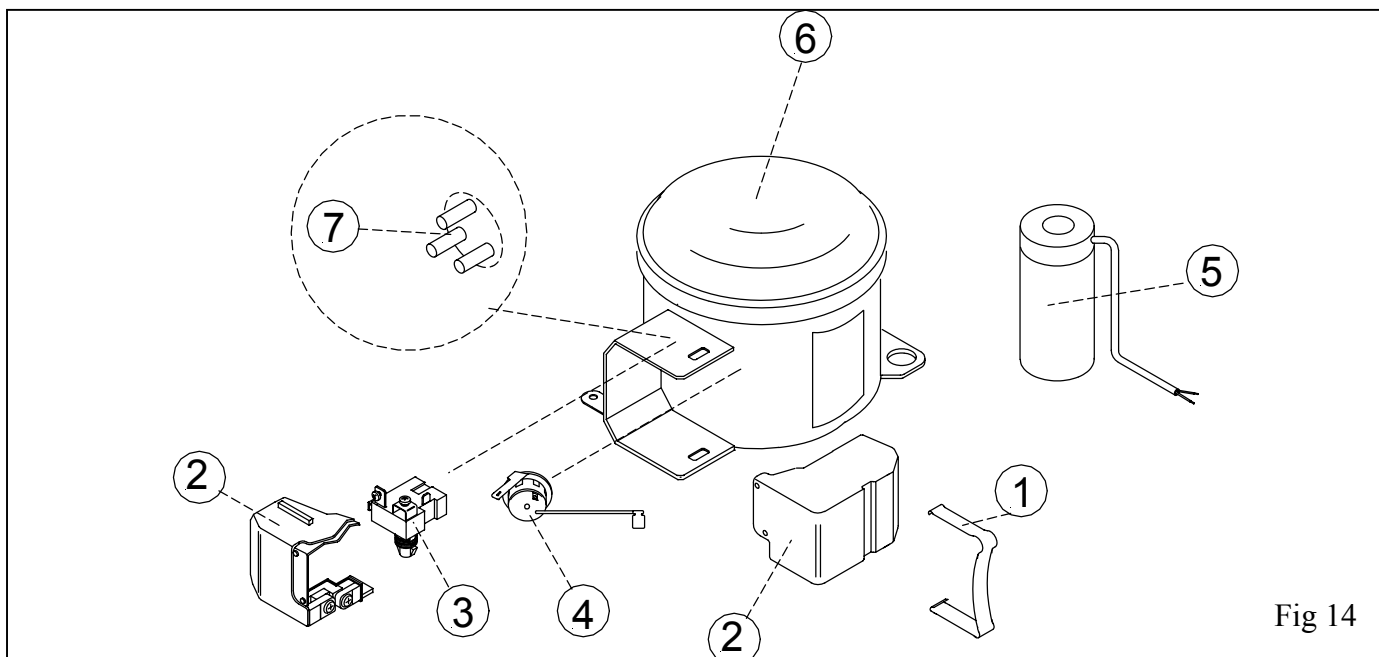

Fig 14
1. Compressor Relay '3' – Overload '4' - Capacitor '5' FIG 14.